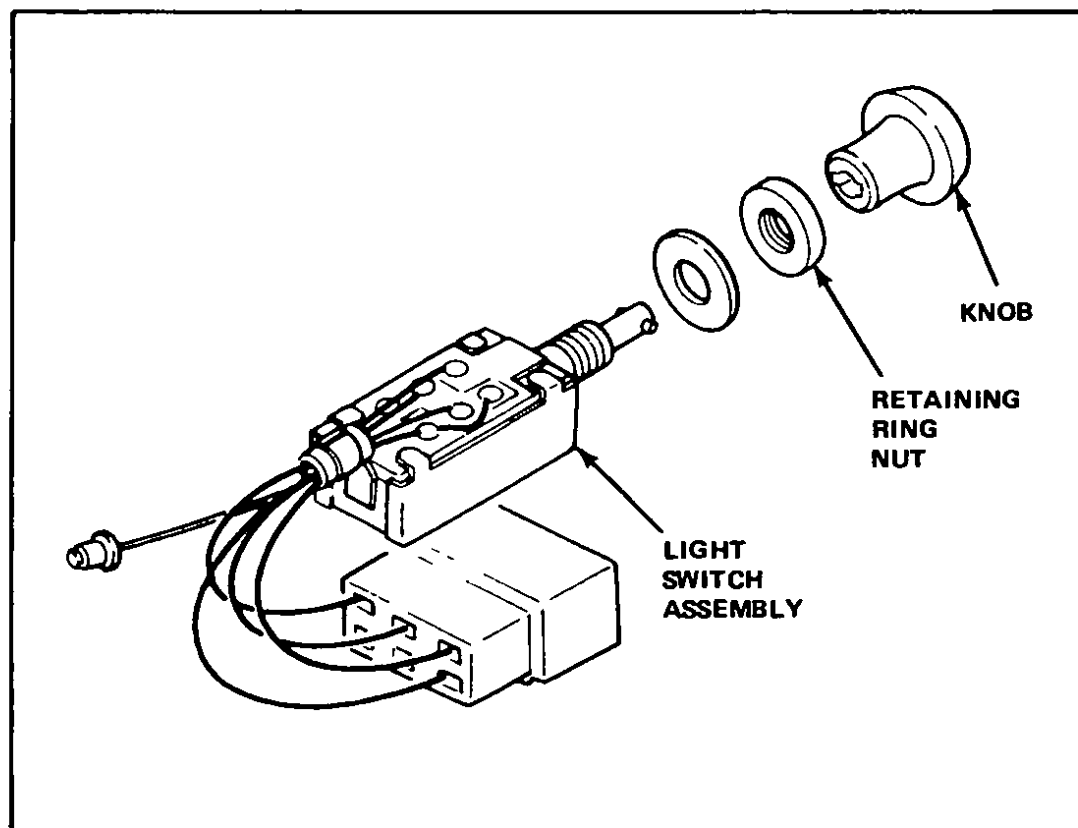

Fig 90 Light switch – Model 610
- 4 Remove the light switch knob by depressing and turning counterclockwise, Fig 90